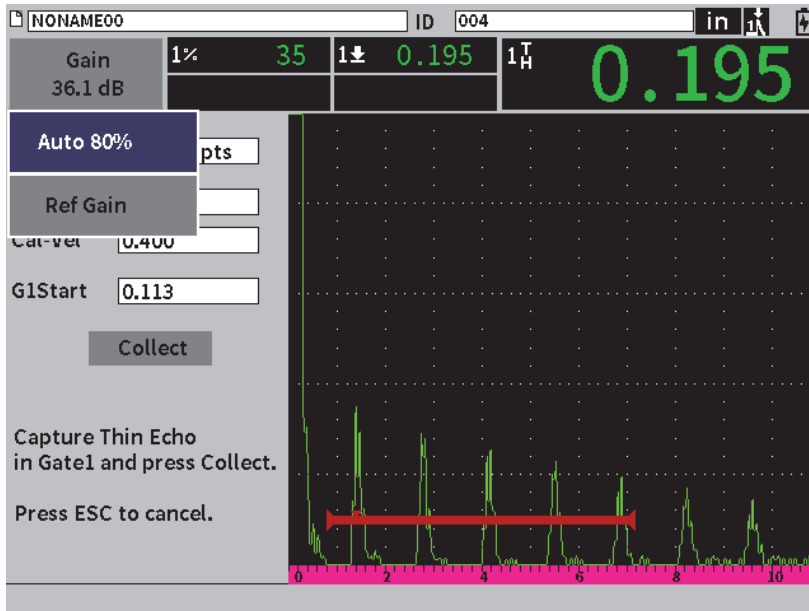

Figure 8-4 Calibration — Ready to Auto 80% on thin echo
8. Press the Tab key to highlight the **Gain** adjustment box, and then complete the **Auto 80%** procedure (see Figure 8-4 on page 116). See “Using the Auto XX% Feature” on page 80 for details on the **Auto XX%** procedure.